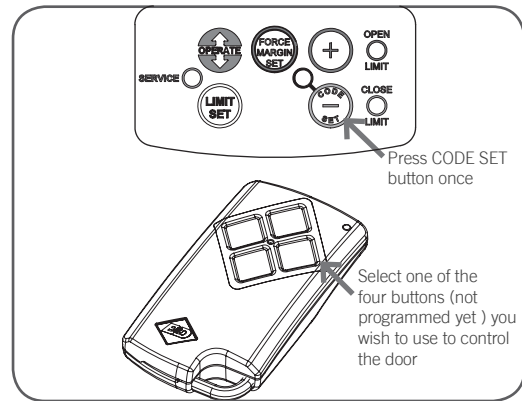

Fig.13
- Press the CODE SET button and release. The CODE SET LED will illuminate to indicate the opener is in Code Learn mode. If a valid code is not stored within 15 seconds the opener will exit Code Learn (**Fig. 13**).